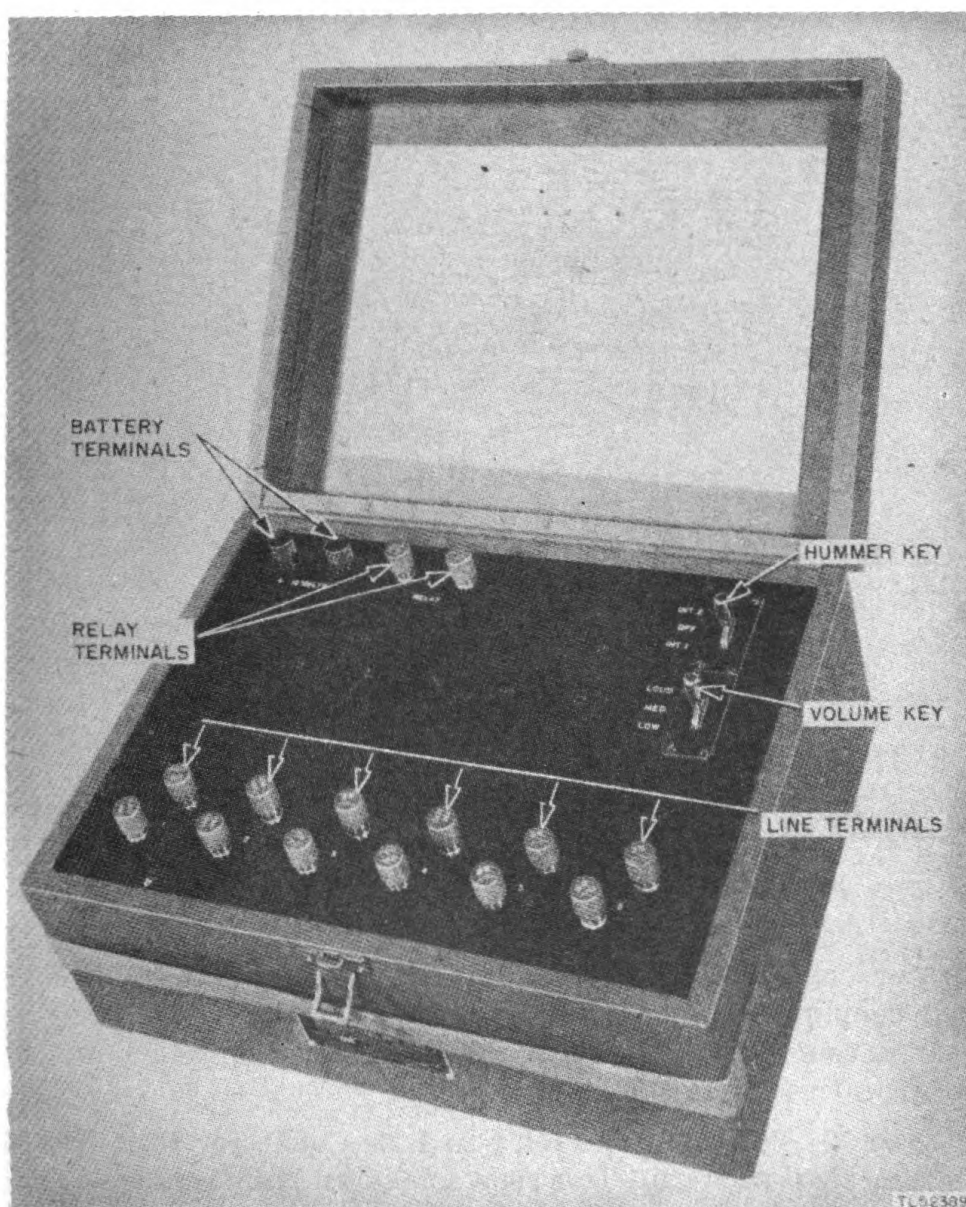

Figure 9. Line Connector Unit EE-87—cover open.
b. *PANEL* (fig. 9). The panel of Line Connector Unit EE-87 is made of bakelite and holds the terminals for connection to the telephone lines, battery, and relay, and the keys for hummer selection and volume. The line terminals consist of 12 Terminals